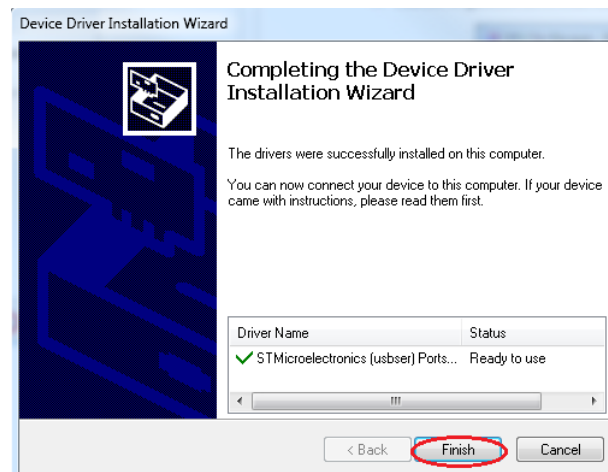

Figure 2.2: Virtual COM Port Driver Installation Finished
5. Click ‘Finish’ when the window shown in Figure 2.2 appears to complete installation.